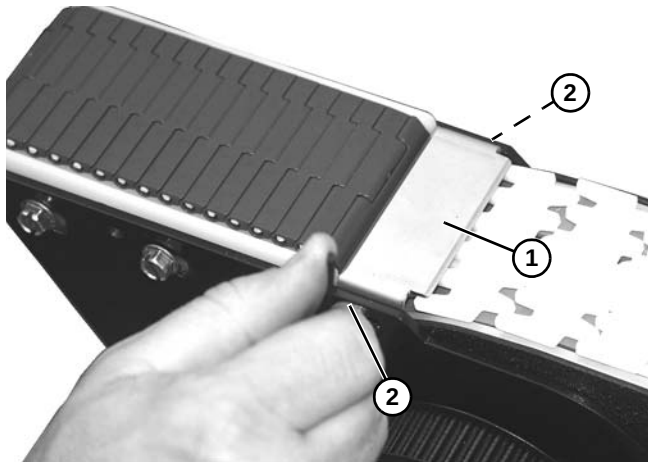

Figure 121
7. Install tensioner plate (Figure 121, item 1) with two socket head screws (Figure 121, item 2).